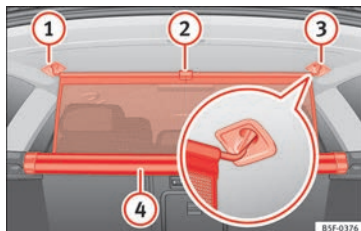

Fig. 171 In the luggage compartment: pulling out and securing the net partition.
- Pull up handle »» Fig. 171 2 to remove the net from the casing 4.